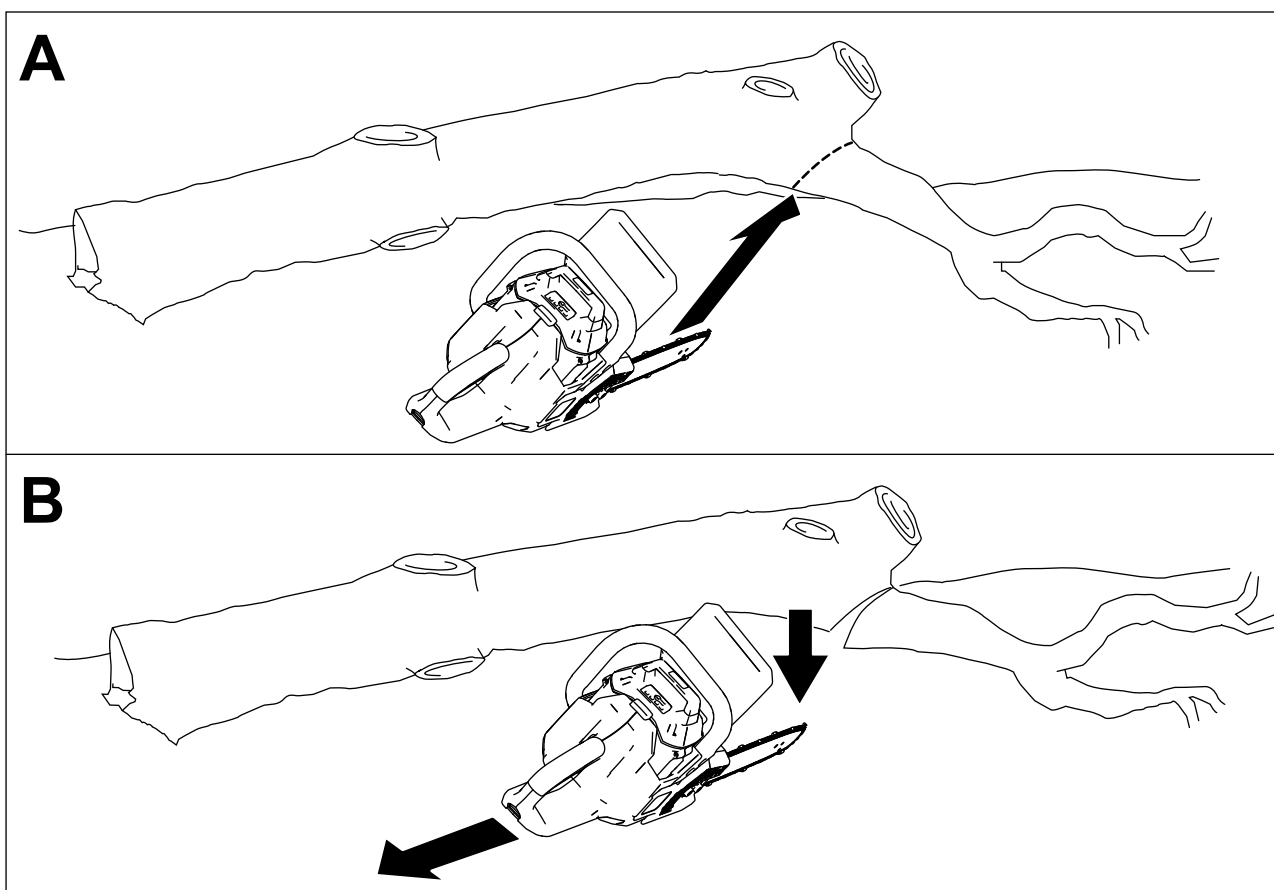

Figure 19
3. Cut the larger limbs that support the weight of the tree from the bottom upward so that the limbs do not pinch the saw blade (Figure 19).